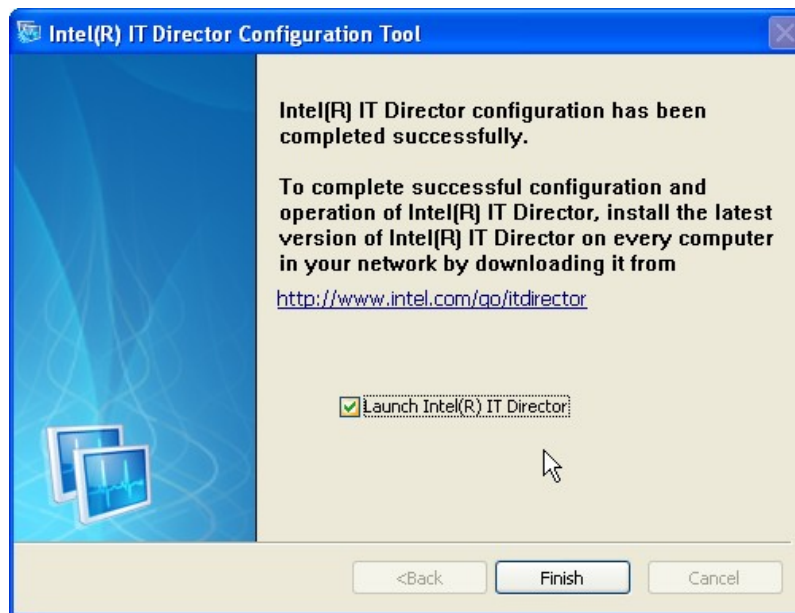

Figure 6-34: IT Director Configuration Complete
Step 19: When the configuration is complete, the screen in **Figure 6-34** appears.